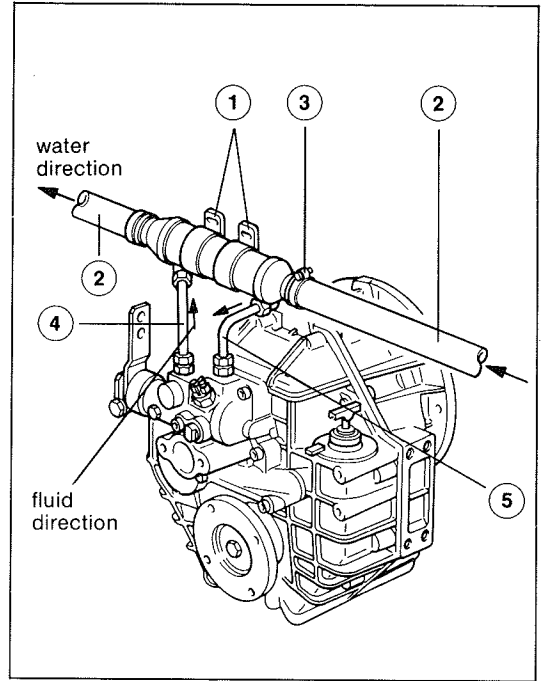

Figure 3
Use two clamps (Figure 3, item 1) and fasten the cooler for example at the flywheel housing.
Slide hose connections (Figure 3, item 2) over the cooler connections and tighten hose clamps (Figure 3, item 3).
Mount fluid lines (Figure 3, item 4 and 5) between transmission and cooler.
Directions of flows see arrows in Figure 3.